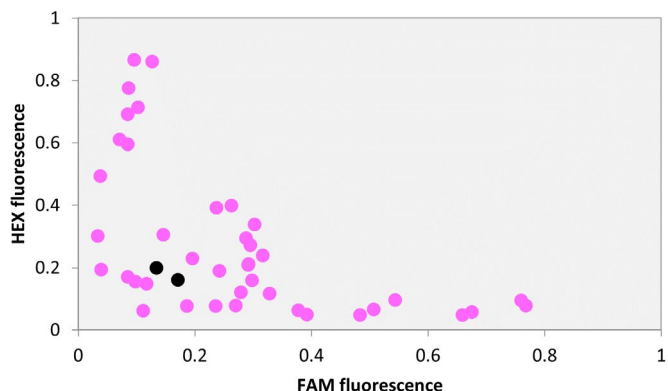

Figure 1. Genotyping data points move more slowly than expected away from the plot origin, and do not form distinct genotyping clusters.
**Plot characteristics:** genotyping clusters move more slowly than expected away from the origin. Data points do not resolve into separate clusters (figure 1).